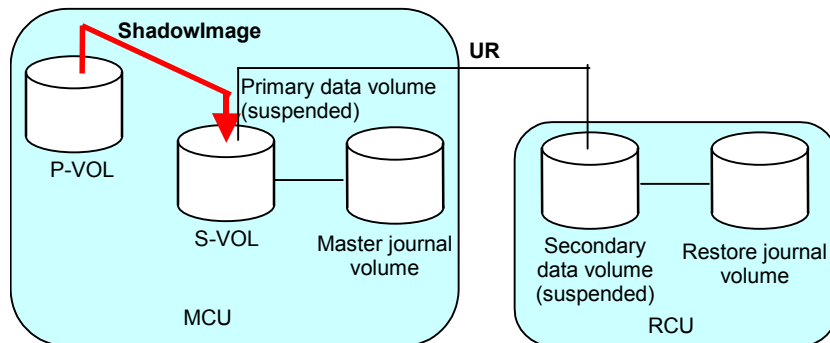

Figure 3-15 Restoring a ShadowImage P-VOL - Step 7
7. Execute the CCI **paircreate** command on the ShadowImage pair to perform copying in the original direction (see Figure 3-15).